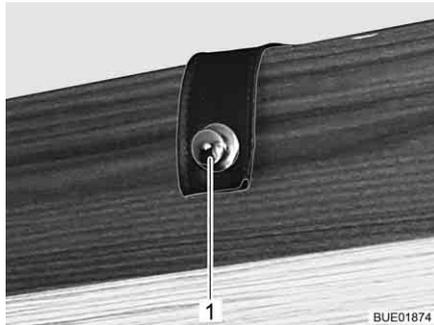

Fig. 86 Belt with pull knob
- Open the pull knob (Fig. 86,1) on the belt.